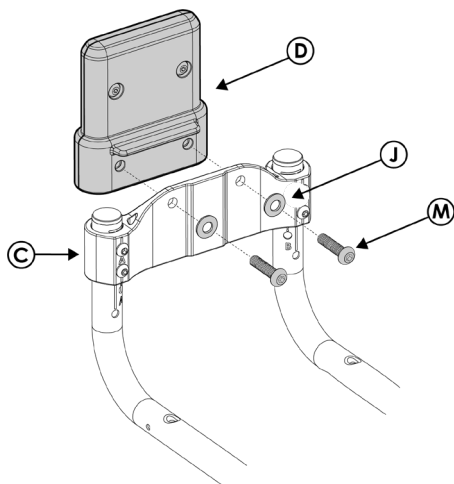

FIGURE 5
5. Attach **D** using **J** and **M** using tool (**G**). Tighten firmly. See *FIGURE 5*